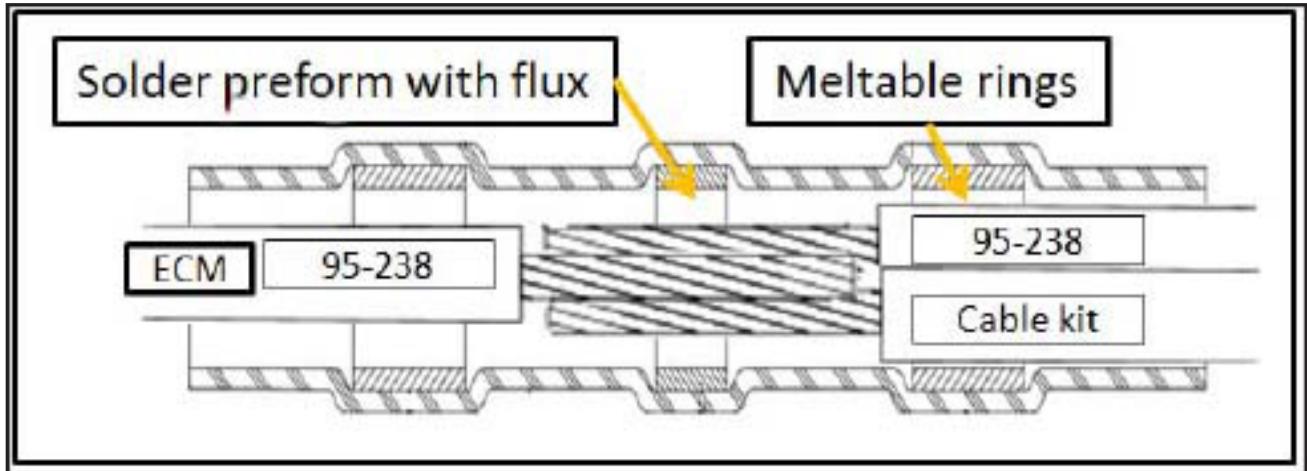

Figure 35 - Install a Solder Sleeve for 5V OEM Sensor Supply Splicing
- 2.22. Locate the wire 95-238 (5V OEM sensor supply red wire) at position 8 of the ECM connector, measure 5 inches and cut the wire. Remove 1/2 inch of insulation at both ends of wire 95-238 and at the end of the remaining red wire of the front-to-back cable and insulation on both the wire from position 8 and the remaining wire of the new wire kit. Install a solder sleeve (N93457-03) over the 3 wires and heat evenly until the solder penetrates into the wires (see Figure 35).